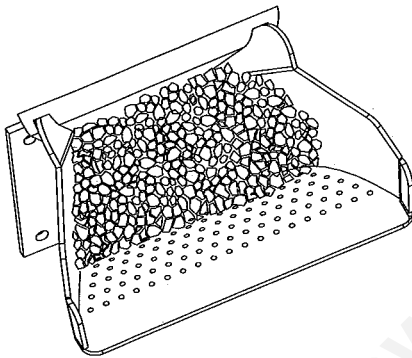

Fig. 16
2. **Fill the burn pot** with DRY coal so that it is level with the bottom row of holes. (The combustion air comes only from the burn pot holes; therefore, any starting material must be over the holes.) See Figure 16.